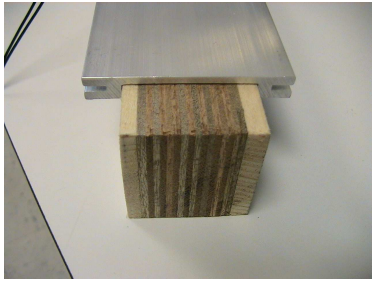

Figure 10
- A. Mounting key solenoids to rails. Starting with the bass key solenoid section, clamp the bass rail to a workbench with the recessed side down. A 2"x2" (50mm x 50mm) block of wood can be used to elevate the rail. (See fig. 10)